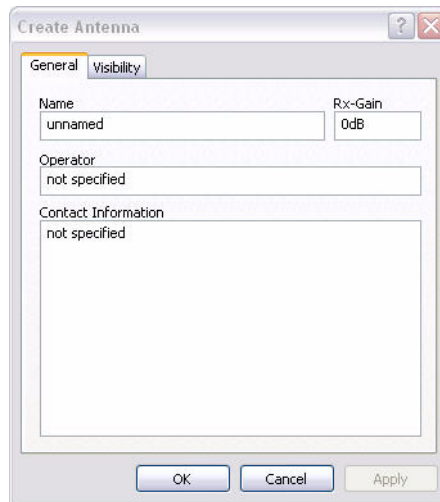

Figure 3-16 Create Antenna dialog
2. In the General tab of the Create Antenna dialog (figure 3-16), enter the **Name**, **Operator** and **Contact Information**.